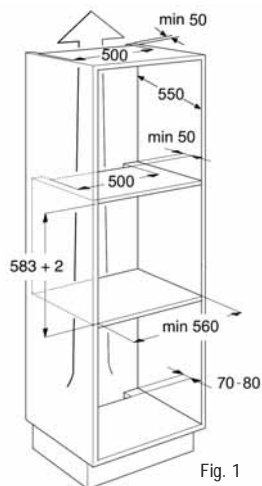
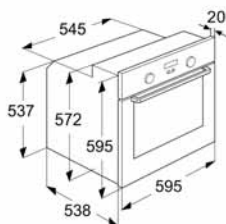

Fig. 1
Fig. 4
- The dimensions of the housing unit are shown in Figures 1, 2 and 3. The oven dimensions are shown in Figure 4.